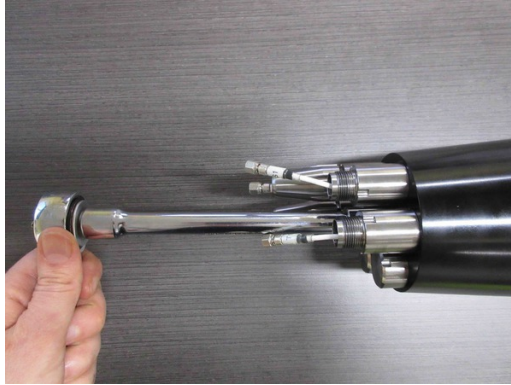

Figure 22: Loosening the front sealing nut with a socket wrench (with extension).
2. Remove the sealing nut with the provided 1/2" deep socket and provided torque wrench. Alternatively, a socket wrench with extension (Figure 22), or nut driver can be used.